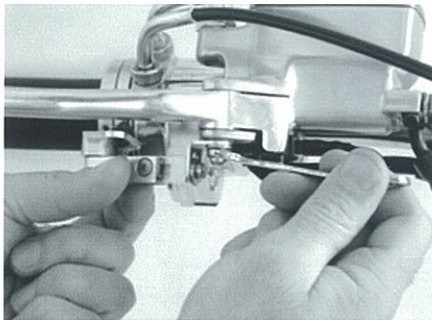

Figure 12
- 3.1** Remove the lock nut from the motorcycles brake pivot bolt. Attach the End Bracket(7) and replace the brake pivot lock nut. Apply pressure to the Swivel(5) with your left thumb while tightening the nut with your right hand as shown. **(Figure 12)** This will keep the End Bracket(7) from turning while tightening the brake pivot nut. *(Tighten the nut to manufacturers specifications)*